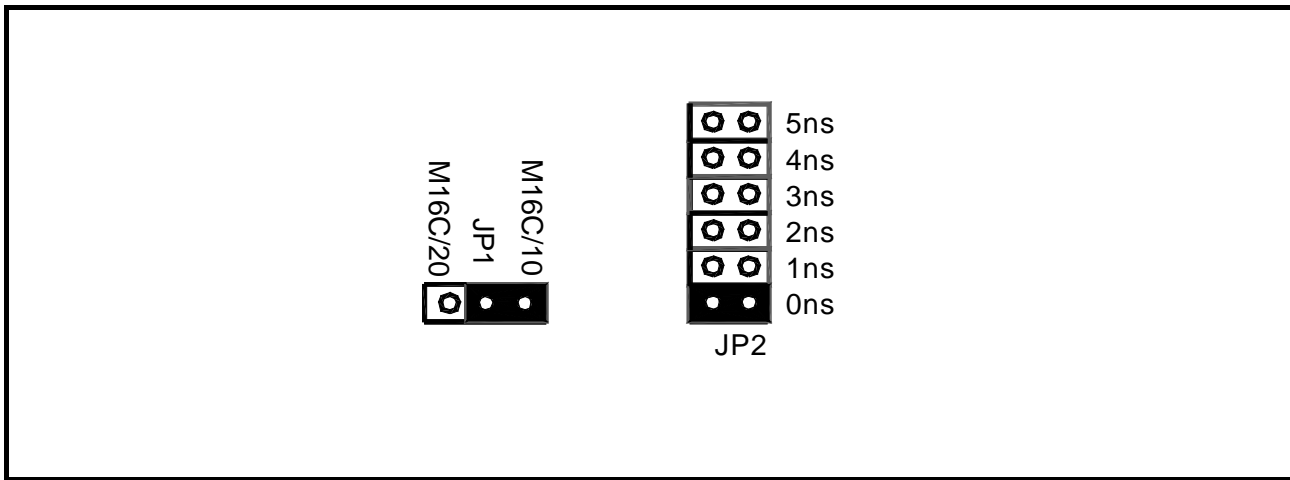
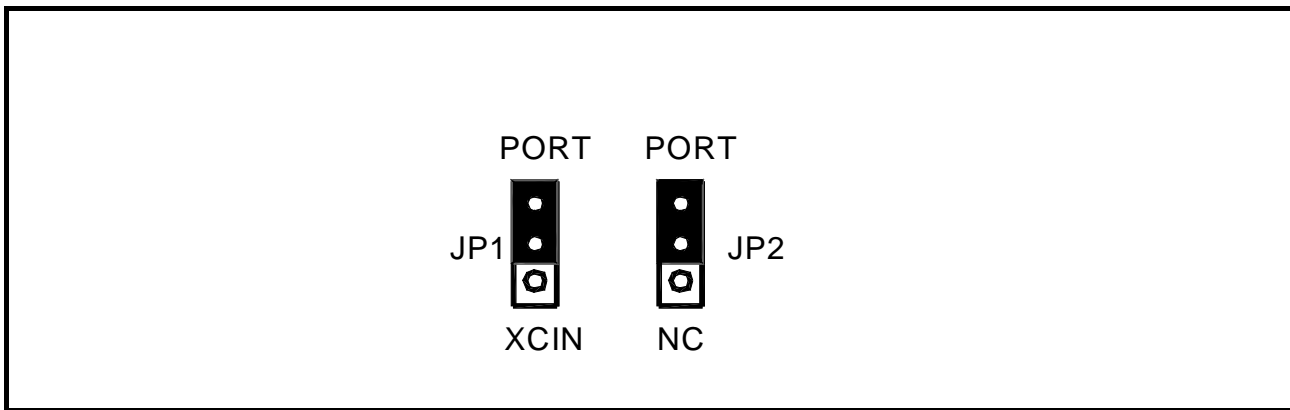

Figure 3.3 Switch settings of the M30100T3-RPD-E for the self-check (factory-settings)
Figure 3.4 Switch settings the FLX64-PRB for the self-check (factory-settings)
- (1) If the user system is connected, disconnect it.
- (2) Set the switches in the emulation pod to the factory settings as shown in Figure 3.3.
- (3) Set the switches in the emulation pod FLX64-PRB to the factory settings as shown in Figure 3.4.
- (4) Within 2 seconds of activating power to the emulator, press the system reset switch on the emulator front panel.
- (5) Check the SAFE LED starts blinking and then press the system reset switch again.
- (6) The self-check will start. If the normal result is displayed in about 40 seconds, the self-check has terminated normally.
- Whether the switches in the M30100T3-RPD-E and FLX64-PRB are set to the factory settings (as shown in Figure 3.3 and Figure 3.4).